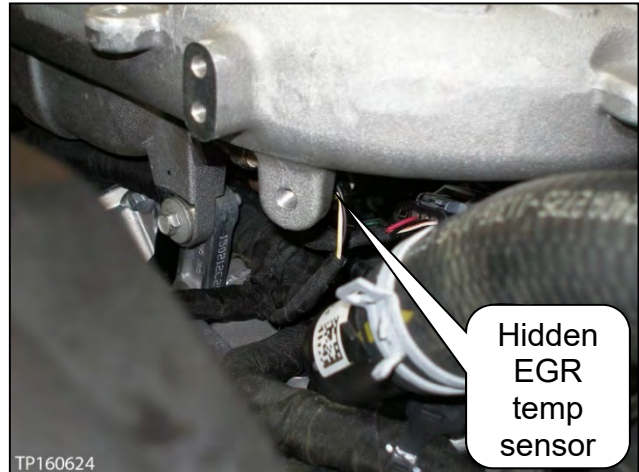
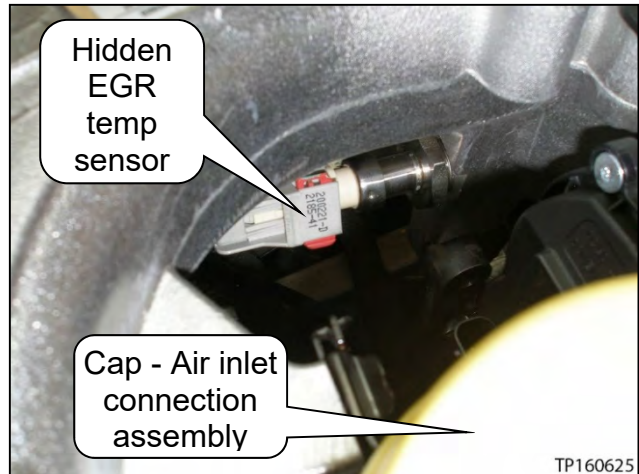

Figure 85
Figure 86
27. Connect the EGR temperature sensor connector (see Figure 85 and Figure 86).
- Figure 86 shows the EGR temperature sensor connector when viewed between the front of the intake manifold and the air inlet connection assembly.